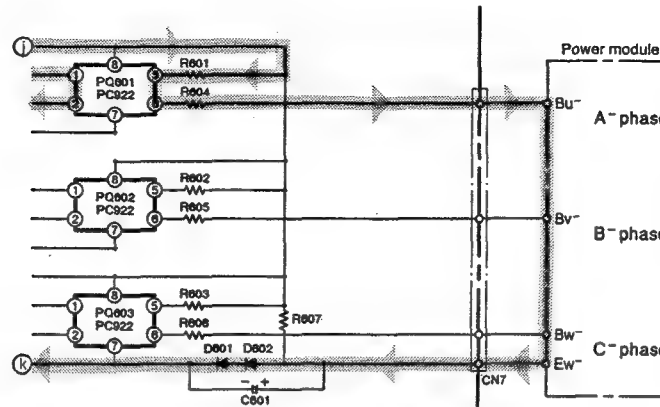

Fig. 7-4
Fig. 7-4 shows the lower arm drive circuit.
- When pin ③⑤ of the micro computer goes "Lo" → "Hi", a photocoupler between PQ601 pins ① and ② turns on and current flows to terminal (i) → R601 → PQ601 → R604 → power module's Bu⁻ terminals → Ew⁻ terminals → D602 → D601 → terminal (k) and drives the lower arm transistors. (Fig. 7-4)
- The signals which turn on or off according to the position detection signals are output from pins ③③ ④④ ⑤⑤ of the micro computer in the same way as in the upper arm drive circuit and are input to pins ① of photocouplers PQ601 and PQ602 via driver IC1.